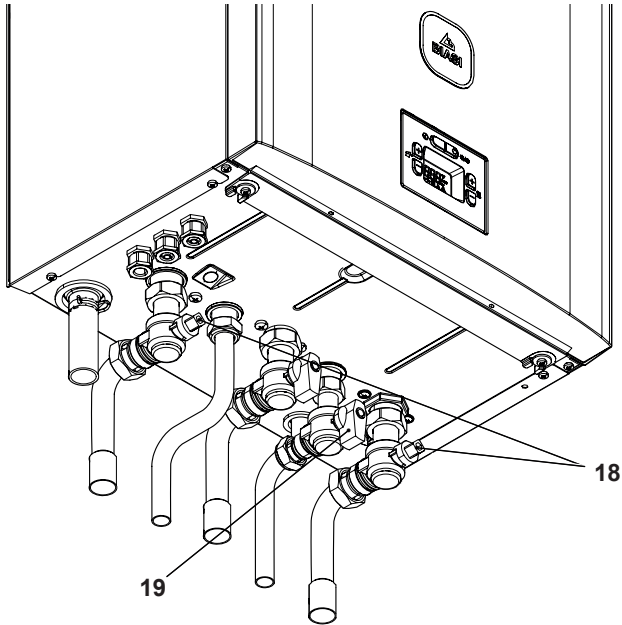

Figure 2.10
- 1 Close the C.H. circuit flow and return cocks "18" (Figure 2.10).
- 1 Close the D.H.W. inlet cock "19" (Figure 2.10).